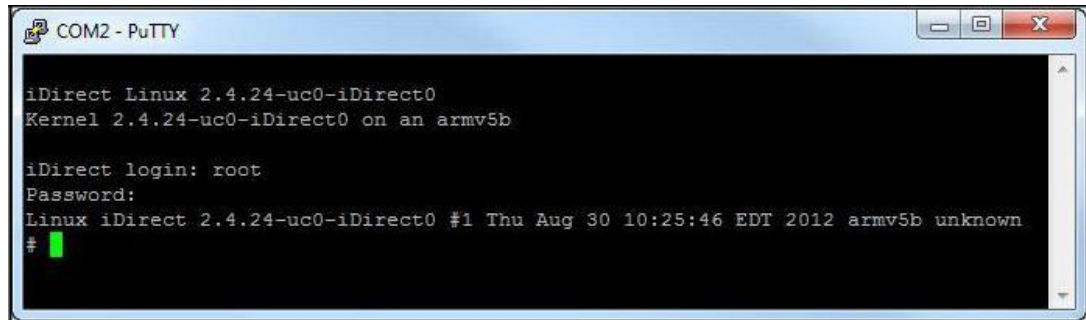

Figure 8. PuTTY Configuration: Serial Parameters
7. Refer to Figure 8. Edit the data fields as needed. The required parameters are: